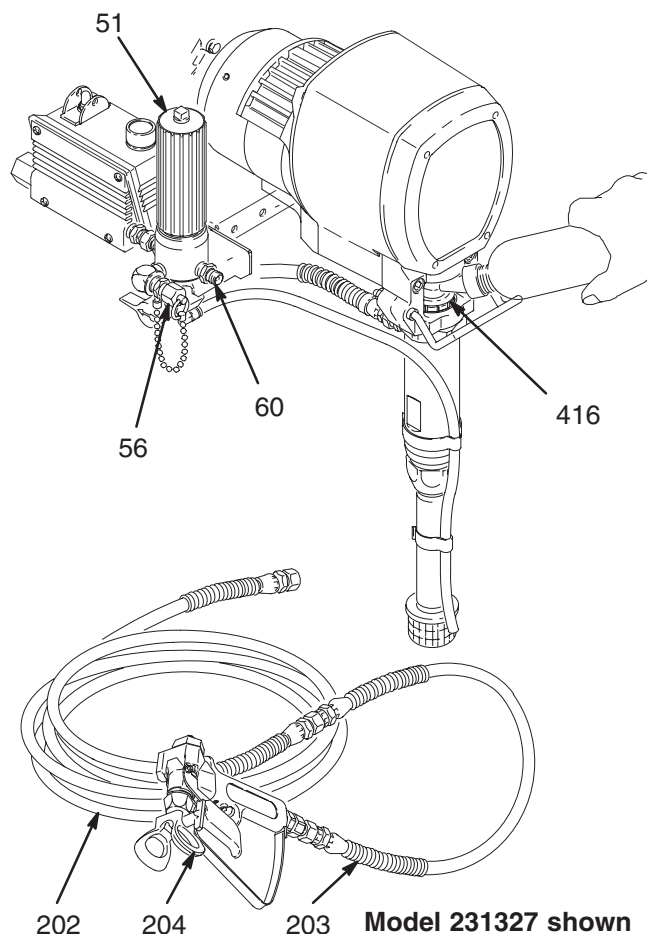

Fig. 2
3. Never install any shutoff device between the filter (51) and main hose (202). See Fig. 2.
4. Always use the main filter outlet (60) for a one gun operation. Never plug this outlet.
1. **Connect hose and gun.** (Refer to Fig. 2.)
- a. Remove the plastic cap from the 3/8 npsm (m) filter outlet nipple (60). Screw the 50 foot (15.2 m) main fluid hose (202) onto the nipple. Read the CAUTION, above.
- b. Connect the whip end hose (203) between the main fluid hose and the inlet adapter of the gun (204).
2. **Two gun hookup.** Remove the cap (56) from the secondary hose outlet. Connect the second outlet hoses to the sprayer as explained in Step 1, above.
3. **Fill packing nut/wetcup.** Fill the packing nut/wetcup (416) 1/3 full with Graco Throat Seal Liquid (TSL), supplied. See Fig. 2.